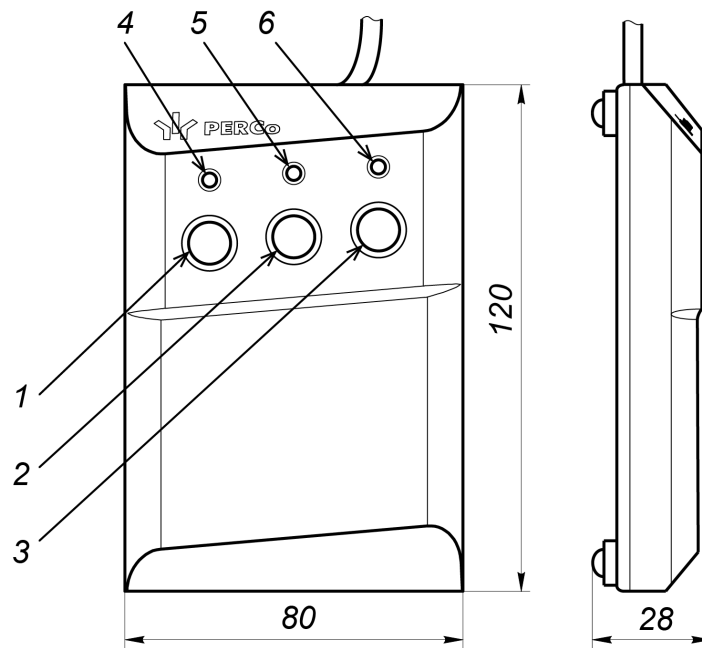
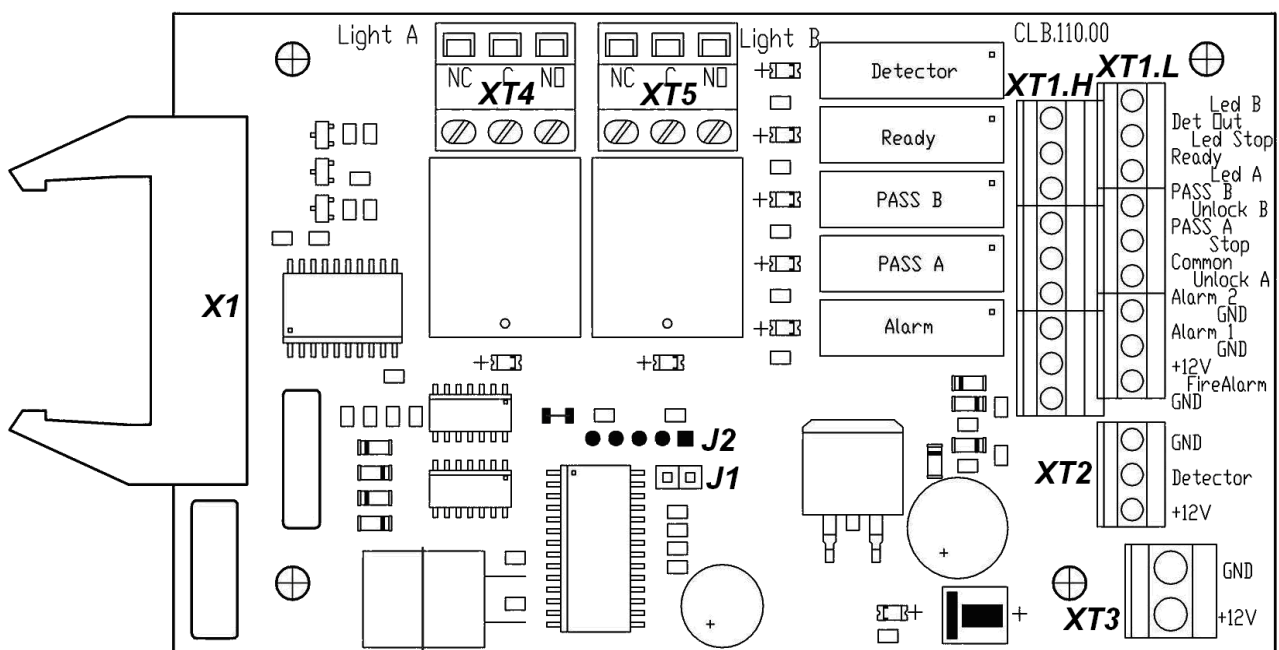

Fig. 3 RC-panel
Fig. 4. Control Logic Board (CLB)
The RC panel is designed in form of a small desktop device with a shockproof ABS plastic case and it is intended for setting and indication of the operating modes when the turnstile is operated manually. The RC panel overall view is shown in Fig. 3.
The RC-panel is connected to the CLB with a multi-thread floppy tape (13) via the "XT1.L" connector block (see Fig. 4).
If the turnstile housing installation is not standard (e.g. the operator's terminal is placed at the backside of the turnstile housing and not at the front side), the RC-panel orientation towards the turnstile housing can be changed by exchanging places of the RC-panel wires to the contacts "Unlock A" and "Unlock B" as well as contacts "Led A" and "Led B" accordingly (see Fig. 3 and Fig. 4).
Turnstile control board (see Fig. 4) located inside the turnstile housing under the left-side outer panel (2). It connects to: RC-panel, ACS controller outputs, WRC device, intrusion detector, emergency unlocking device Fire Alarm. External devices are connected in accordance with the turnstile electrical connection layout (see Fig.13).
The CLB (see Fig. 3) contains:
The relays “PASS A” (contacts “PASS A” and “Common”), “PASS B” (contacts “PASS B” and “Common”), “Ready” (contacts “Ready” and “Common”), “Detector” (contacts “Det Out” and “Common”) and “Alarm” (contacts “Alarm 1” and “Alarm 2”) have normally open contacts. The “Common” contact, at that, is not connected to the CLB power supply negative terminal. In the initial state (inactive, when the power is on) the relay contacts “PASS A”, “PASS B”, “Ready” and “Detector” are closed (voltage is supplied to the relay coil), the relay contacts “Alarm” are broken (voltage is not supplied to the relay coil). The CLB relay operation/release is indicated by lighting up/going down of the red test indicators, located near the corresponding relays (see Fig.3).
The control mode variant is set by the jumper on the J1 connector (for the J1 connector – see Fig. 3 or the label on the turnstile frame sidewall under the left-side outer panel (2)): the jumper is fixed — pulse control, the jumper is not fixed — potential control. The jumper is fixed at the factory before the delivery.
Connection of the stipulated in Clause 5.3.1 devices is made with cable (6) to the corresponding connectors "XT1.L" or "XT1.H" of the CLB in accordance with the connection layout (Fig.3 and 4).
Pin assignments of those connector blocks are given on the CLB and on the label on the turnstile frame sidewall under the left-side outer panel (2) (see Fig. 3).
The intrusion detector is connected to the “XT2” connector block, and the siren is connected to the “XT1.H” connector block of the CLB according to the connection layout (see Fig. 3 and 4). There should be normally closed contacts on the intruder detector.
If the turnstile is blocked ("Always locked" mode or "Both directions closed" one, see Tables 3 and 4) and a signal comes from the intrusion detector, the "Alarm" signal is generated. The "Alarm" signal is disabled after 5 sec. or by performing of any received command. The signal from the intrusion detector is ignored for the period of authorized unblocking of the turnstile (in either or both directions). If within 3 sec after the "Always locked"/"Both directions closed" mode is set, the signal from the intrusion detector comes, it is ignored. The intrusion detector status signal is constantly transmitted to the "Det Out" and "Common" contacts of the CLB "XT1.H" connector block (Fig. 3).
The emergency unblocking device is connected to the "XT1.L" connector block of the CLB in accordance with the connection layout (see Fig. 3 and 4). If the "Fire Alarm" input is not used, it is necessary to set a jumper between contacts "Fire Alarm" and "GND". This jumper is set at the factory before the delivery.